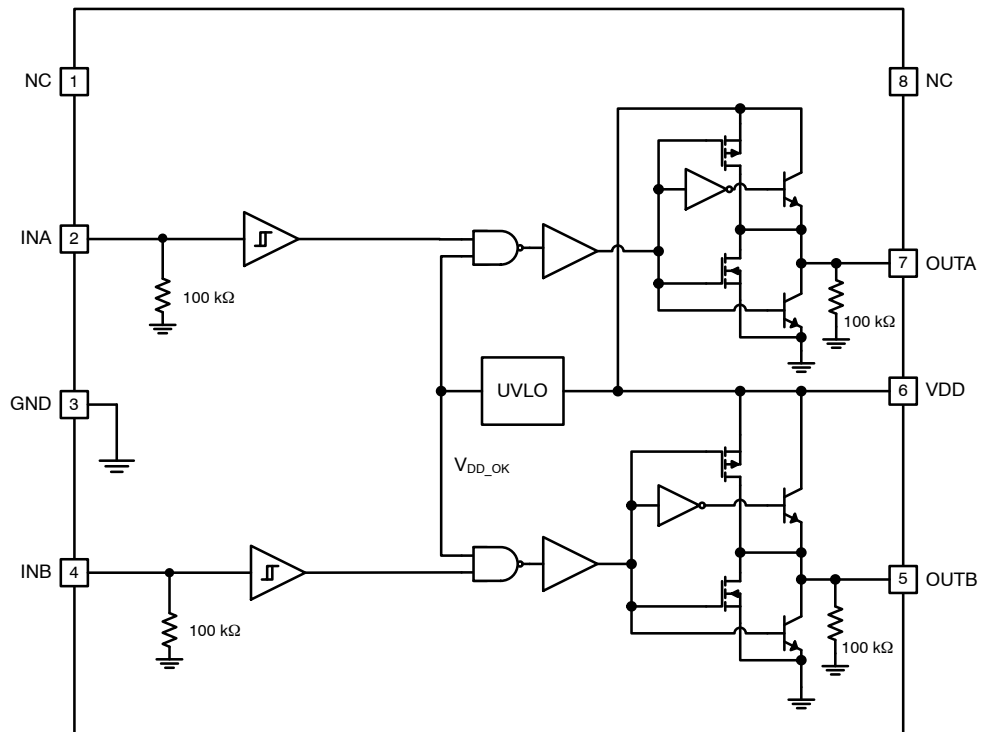

Figure 5. FAN3214 Block Diagram
10. For any inverting inputs pulled low, non-inverting inputs pulled high, or outputs driven high; static I_{DD} increases by the current flowing through the corresponding pull-up/down resistor shown in Figure 4 and Figure 5.